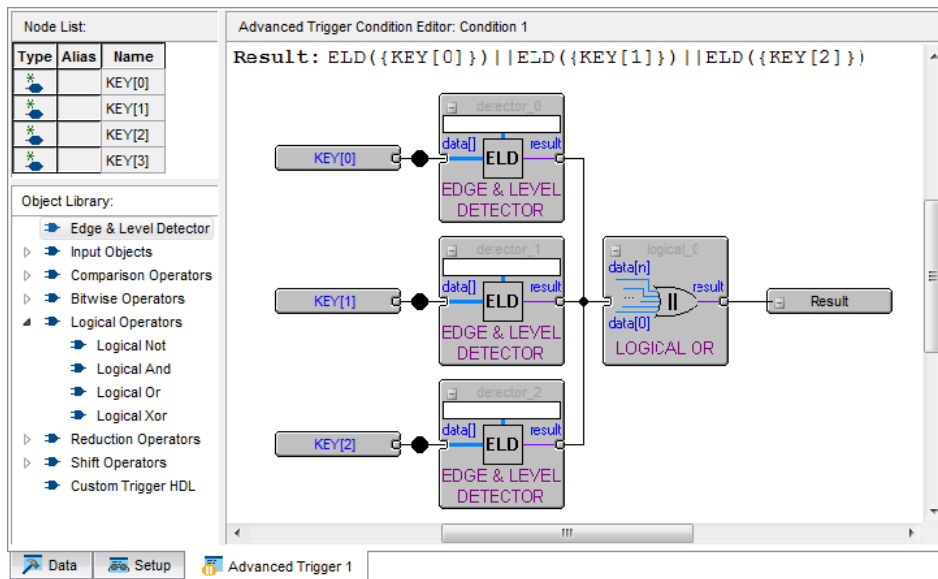

Figure 20. Arrange the elements to create a circuit that looks like this.
- In the object library click Edge and Level Detector and drag this into the editing window. Do this three times and then arrange the circuit as in Figure 20. The three inputs should each be connected to the input of an edge and level detector and the output of each of these detectors should be connected to the OR gate. The output of the OR gate should be connected to the output pin already in the editing window.